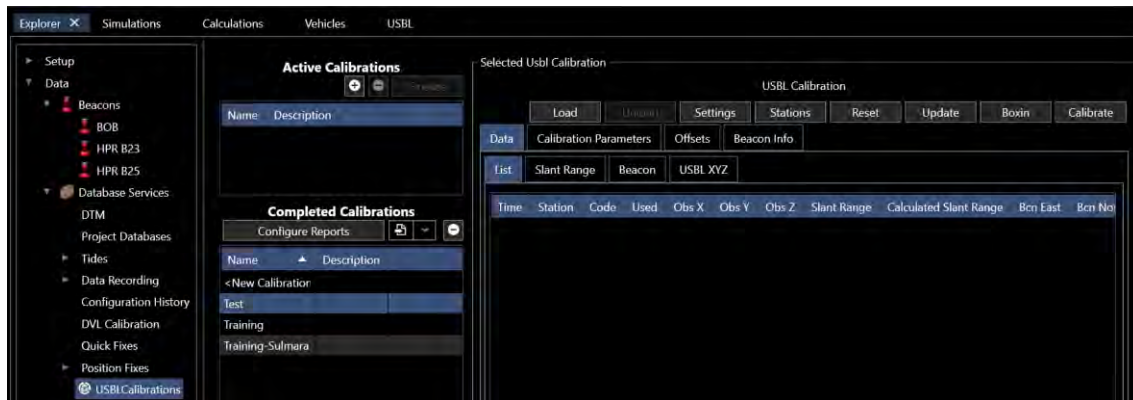

FIGURE 16-2 DATABASE SERVICES - USBL CALIBRATION FEATURE
The USBL Calibration feature is accessed from the Explorer view by selecting the USBL Calibration under the Database Services item (see Figure 16-2).
2. In the **Active Calibration** section (see Figure 16-2) click the  button to launch the wizard
2. In the **Active Calibration** section (see Figure 16-2) select the calibration to edit